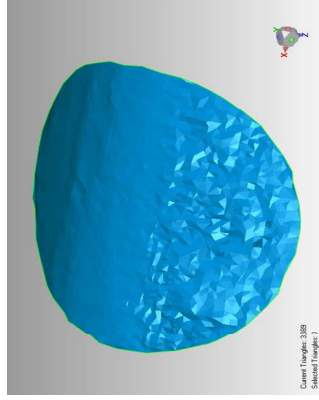

Figure 49
- A polygon preview will be rendered at the area selected as shown in **Figure 49**. **Zoom** in to view the preview in greater detail.